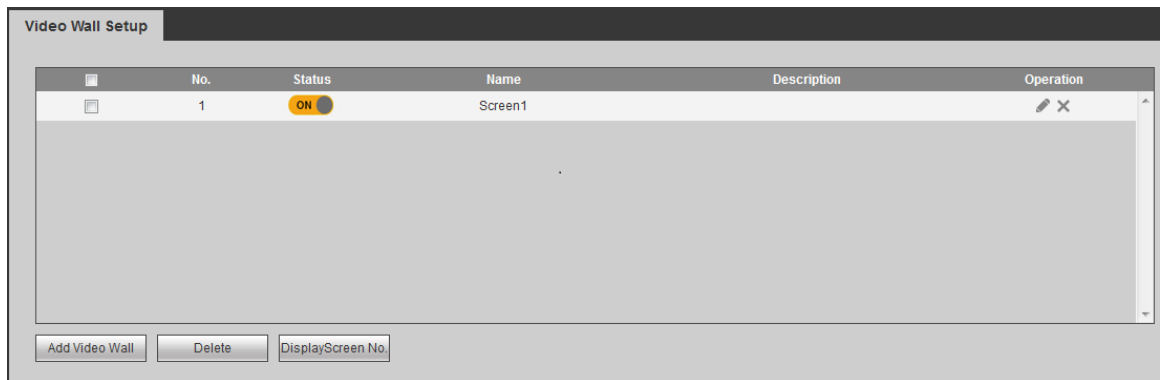

Figure 3-8
Step 6 Click "Done". The system exits "Video Wall Layout Config". New video wall will be displayed in the list, as shown in Figure 3-8.